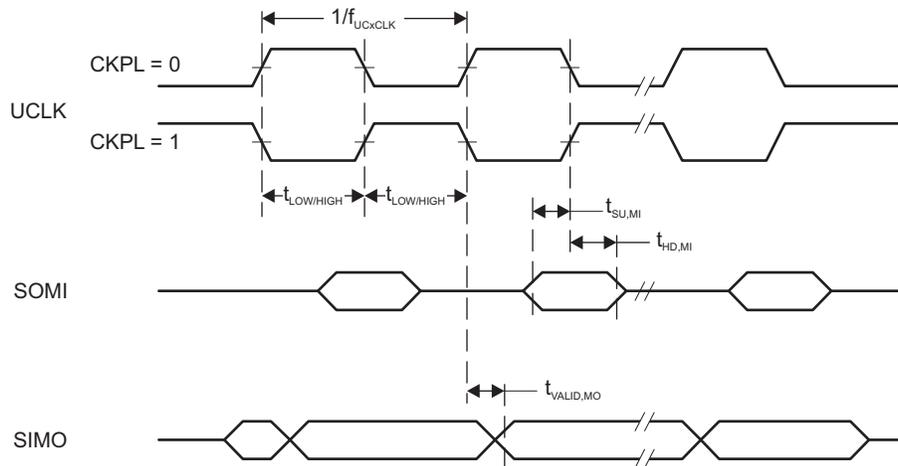
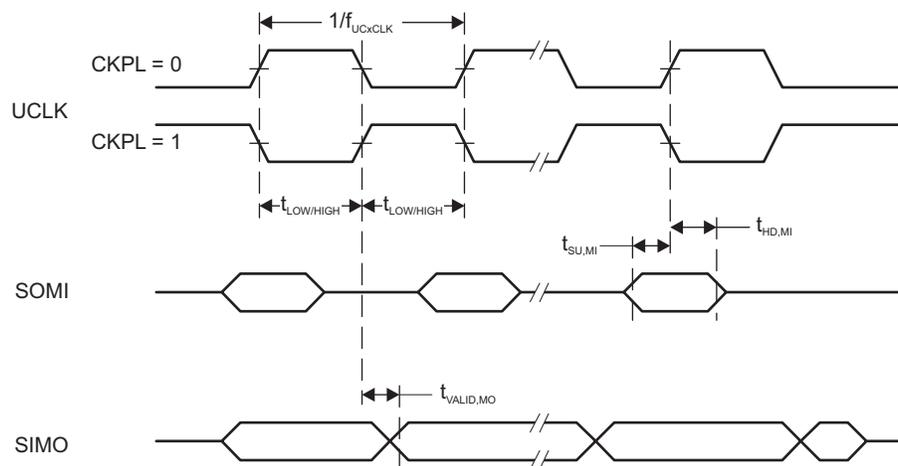

图 5-6. SPI Master Mode, CKPH = 0
图 5-7. SPI Master Mode, CKPH = 1
(2) Specifies the time to drive the next valid data to the SIMO output after the output changing UCLK clock edge. See the timing diagrams in 图 5-6 and 图 5-7.
(3) Specifies how long data on the SIMO output is valid after the output changing UCLK clock edge. Negative values indicate that the data on the SIMO output can become invalid before the output changing clock edge observed on UCLK. See the timing diagrams in 图 5-6 and 图 5-7.